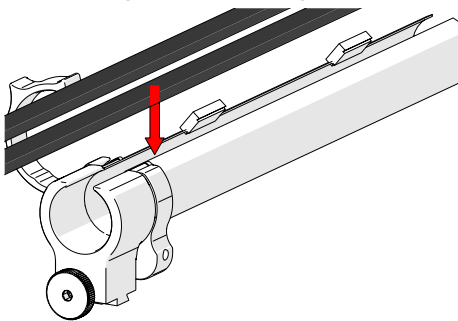

Fig. 73 - Insert cables and hoses
1. Open the cable management and cable latch. Begin at the tube's dovetail mount and place the cabling in the tube (Fig. 73).